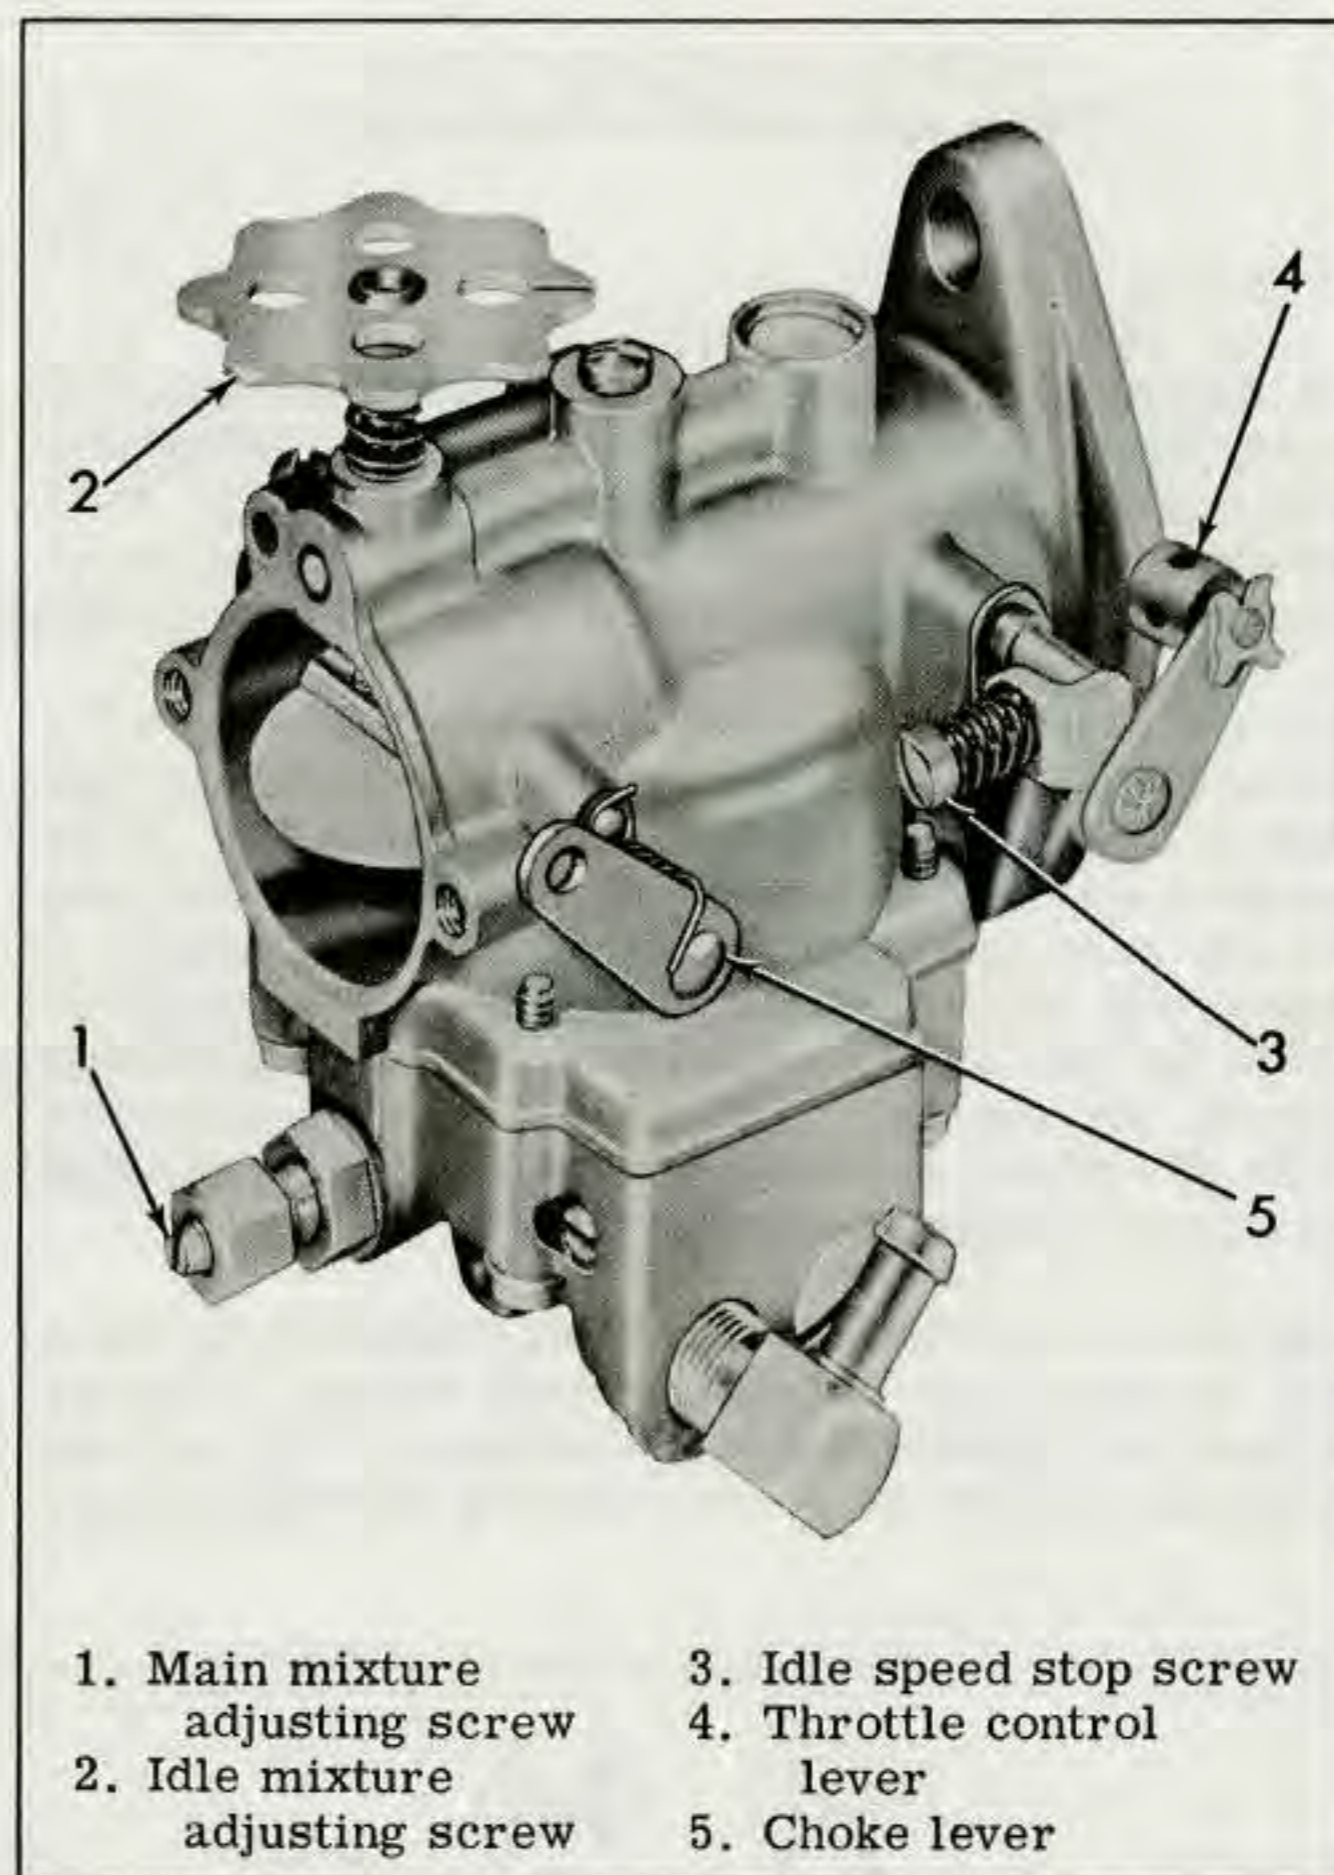

Figure 3F-13. Carburetor Adjustment
DISASSEMBLING CARBURETOR (Fig. 3F-14)
If necessary, remove welch plug (45), and check idle mixture discharge ports (Fig. 3F-12) to be certain they are not wholly or partially plugged. Then tightly install new welch plug.